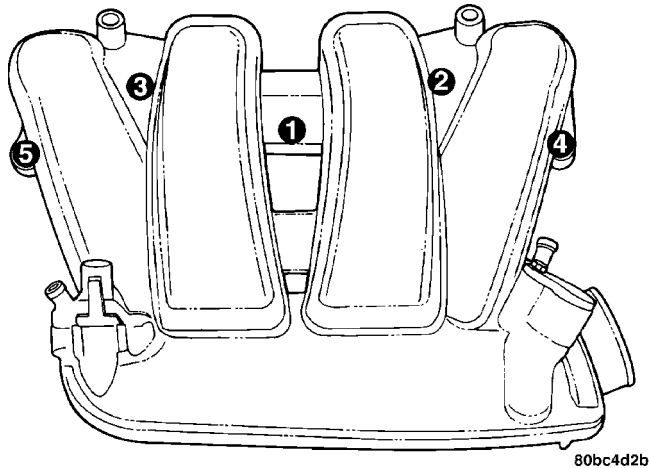

Fig. 135 Intake Manifold Tightening Sequence
(1) Install intake manifold onto cylinder head and tighten fasteners to 12 N·m (105 in. lbs.) in sequence shown in (Fig. 135).